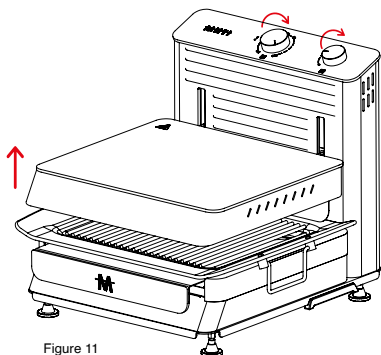

Figure 11
- Turn the on/off switch on the back of the product to position (I).
- To move the adjustable cooking section, turn the lower-upper distance adjustment knob clockwise and bring the upper section to maximum height. (Figure 11)